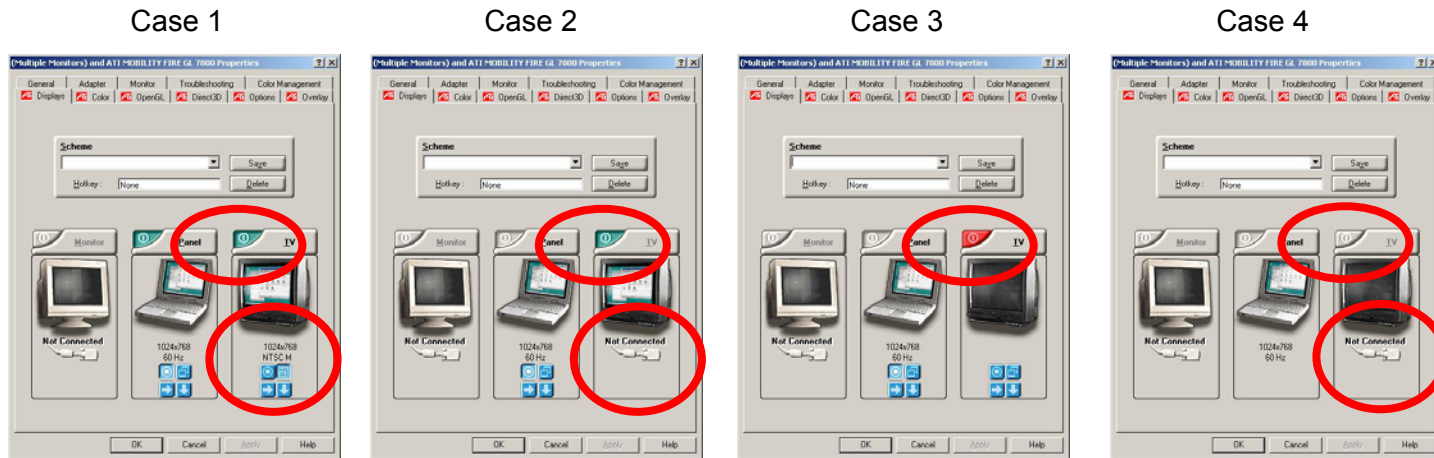

Figure 20-1.- Multiple monitors and ATI mobility fire GL 7800 display tab.
6. √'Displays' tab against fig 20-1 cases' circled areas and perform matching case steps below:
Click Green tab. Tab automatically turns red after selection (see fig 20-1)